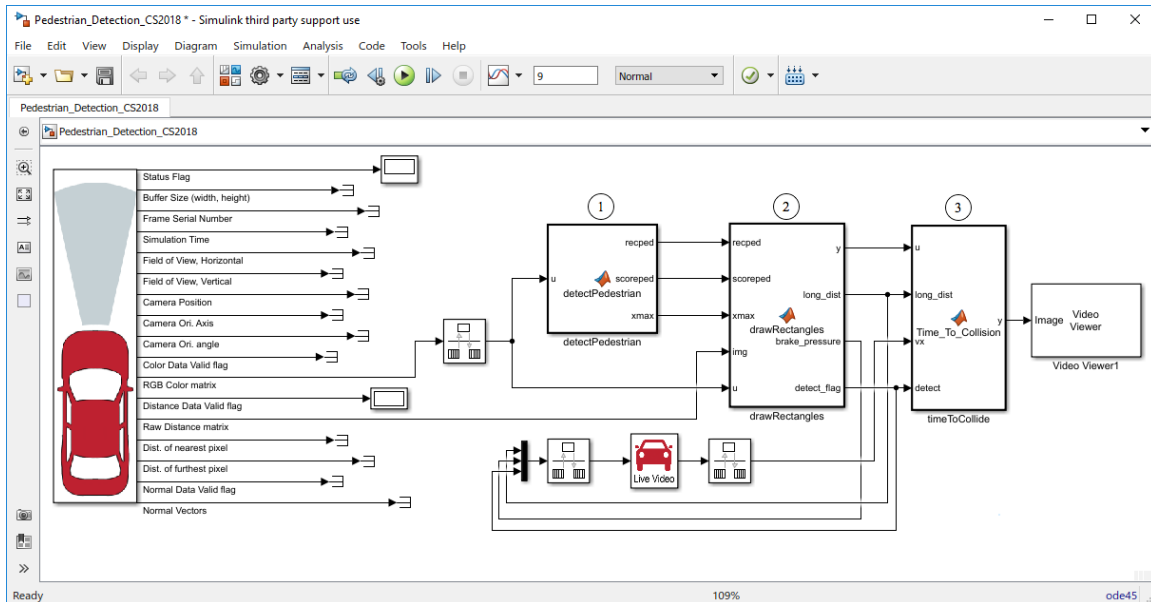

Figure 27. Pedestrian Detection Simulink Model.
1. The RGB color image is read, and a pedestrian is detected using the `peopleDetectorACF` function which returns a pretrained upright people detection (① in Figure 27). The user can adjust the size of the region of interest in block ①.
2. Once a pedestrian is detected, block ② draws a rectangle on the pedestrian. Using the Raw Depth matrix from the Camera Sensor S-Function, it calculates the distance from the vehicle to the pedestrian. The vehicle axle track (1.675m) and the field of vision (55.0 deg.) were obtained from CarSim and hardcoded in *.m file. The user can adjust these values if using a different vehicle. The brake pressure and the distance to apply the braking are also hardcoded and can be edited. Block ② assumes to detect only one pedestrian. The user may modify this if they want to detect more than one pedestrian.
3. Block ③ calculates the time to collision using the distance to a pedestrian and the vehicle velocity.